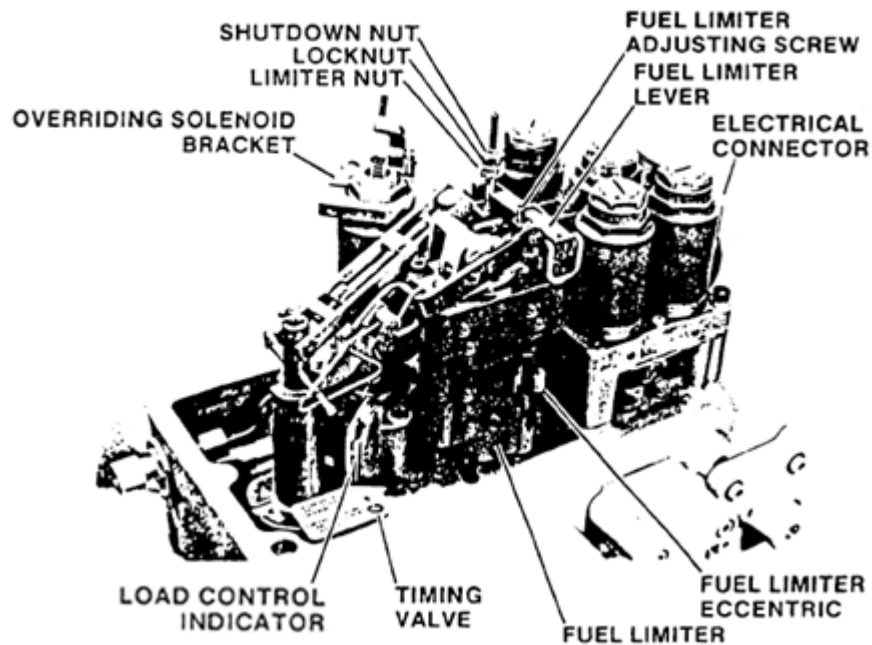

Figure 6-13. PGEV Fuel Limiter
6. Turn both timing valves in until valve gently bottoms. See Figure 6-13.